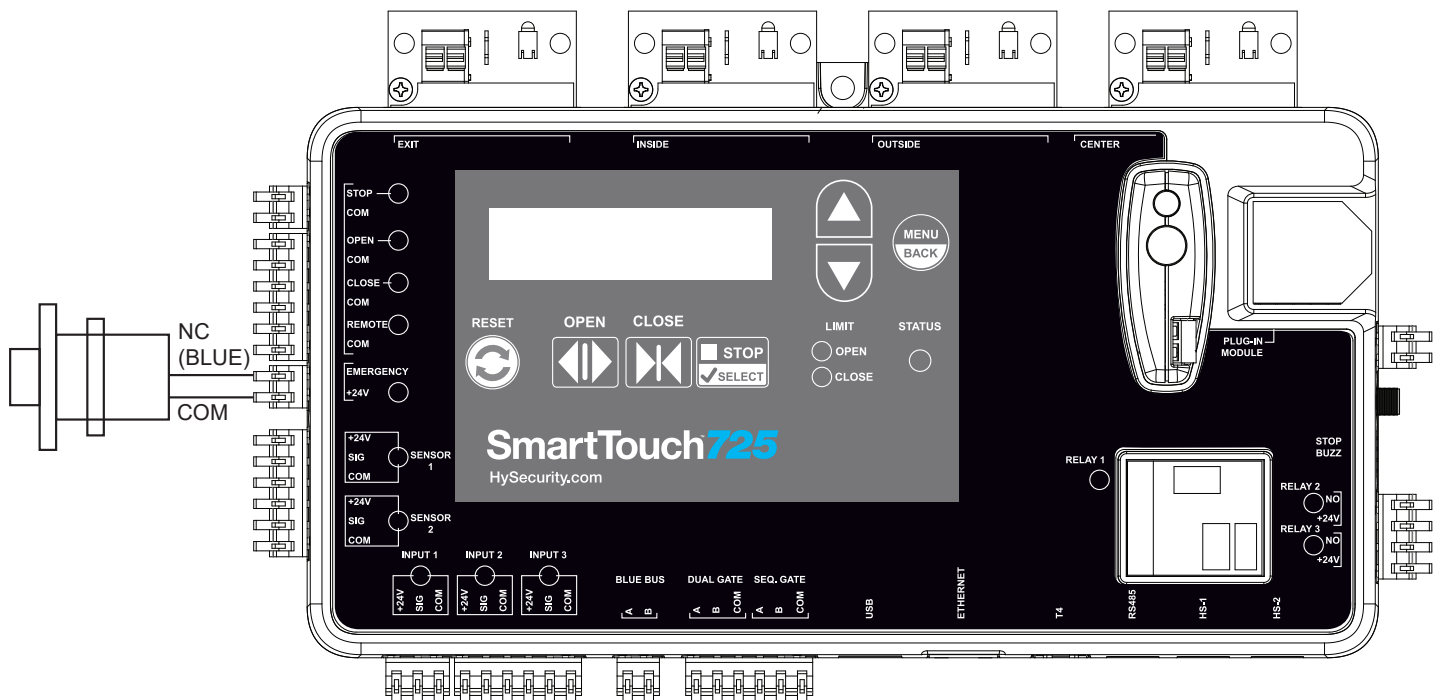

Figure 9. Micro Switch Wiring
16. Optional: connect microswitch COM and NC (the switch is held down by the lock box door) to SmartTouch 720/725 Controller Emergency Input (Figure 9) or wire to external access control system.